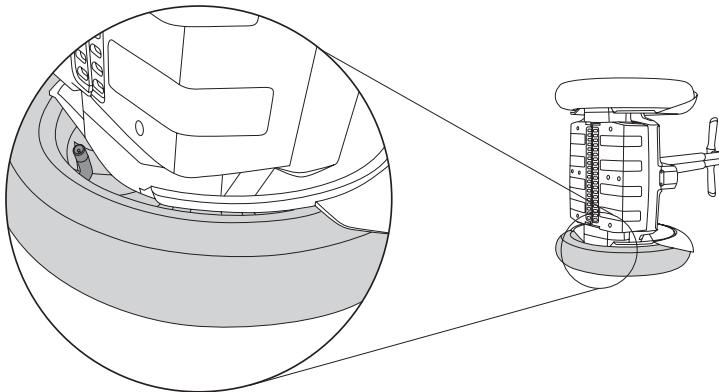

Figure 37. Check Tire Inflation Pressure
2. Tip the Segway PT onto its side, making sure the Tire to be checked is on the ground. See **Figure 37**.